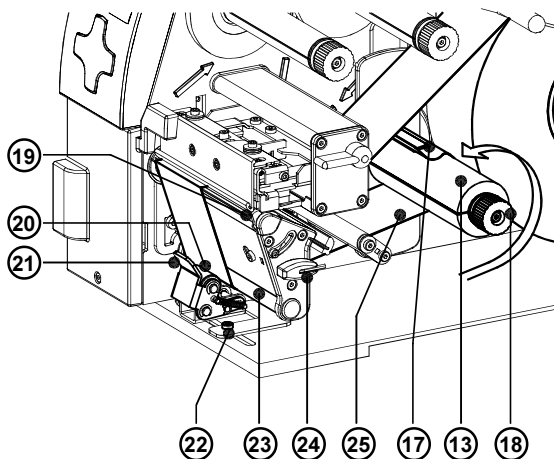

Fig. 7g Loading Labels from Roll in Peel-off mode
13. For peel-off mode swing the locking system (21) away from the rewind assist roller (23).
14. Remove all labels from the media strip hangig out of the printer. Then, slide the strip (25) around the dispense plate (19) to the internal rewind hub (13) as shown in figure 7g. Slide the strip under the clamps (17) that are located on the internal rewind hub (13). Hold the internal rewind hub (13) and rotate the nut (18) counter-clockwise until it is tight. The media strip will now be fastened to the internal rewind hub (13). Rotate the internal rewind hub (13) counter-clockwise to tighten the media strip.
15. Loosen the screw (22) using the Allen key (24). Align the locking system (21) including the pinch roller (20) by sliding it sideways. The alignment is correct if the pinch roller (20) is placed in the middle of the label strip.
16. Swing the locking system (21) to the rewind assist roller (23) and tighten the screw (22).